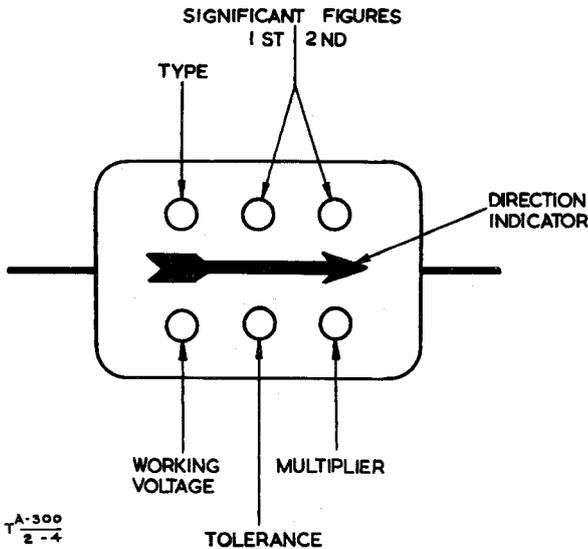

Fig 4 - UK colour coding - mica capacitors
12. The significance of the colours used to indicate type, tolerance and working voltage are shown in Table 4 and the relative positioning of the colours used is shown in Fig 4.